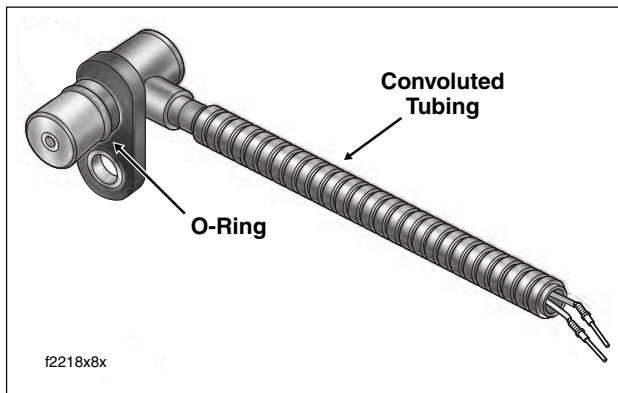

Figure 9-7. Crankshaft Position Sensor
7. Remove terminals from pin housing. See Figure 9-7.
- Install convoluted tubing onto crankshaft position sensor cable. See Figure 9-7.